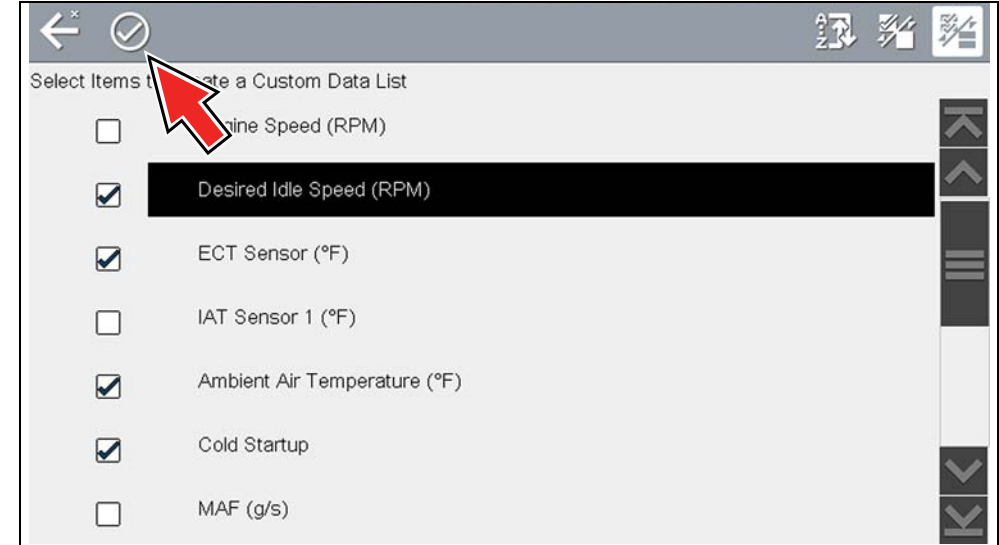

Figure 6-15
2. Create a custom data list by selecting (check mark) the parameters to include (Figure 6-15).
3. To create and view the custom list, select the **Accept** icon (Figure 6-15).